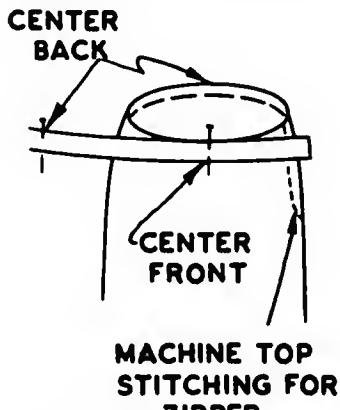

Fig. 275. Attaching the belt to the skirt.
1. Place the right side of the front belt against the right side of the front skirt with the belt extending about 1 in. over the placket opening (Fig. 275).
2. Place a pin at the center front (Fig. 275).
- ter front toward the center back, and place another pin which then marks the center back (Fig. 275). (For example, if the waistline measure is 24 in., measure 12 in.)
4. Pin the center back of the belt to the center back of the skirt (Fig. 275).